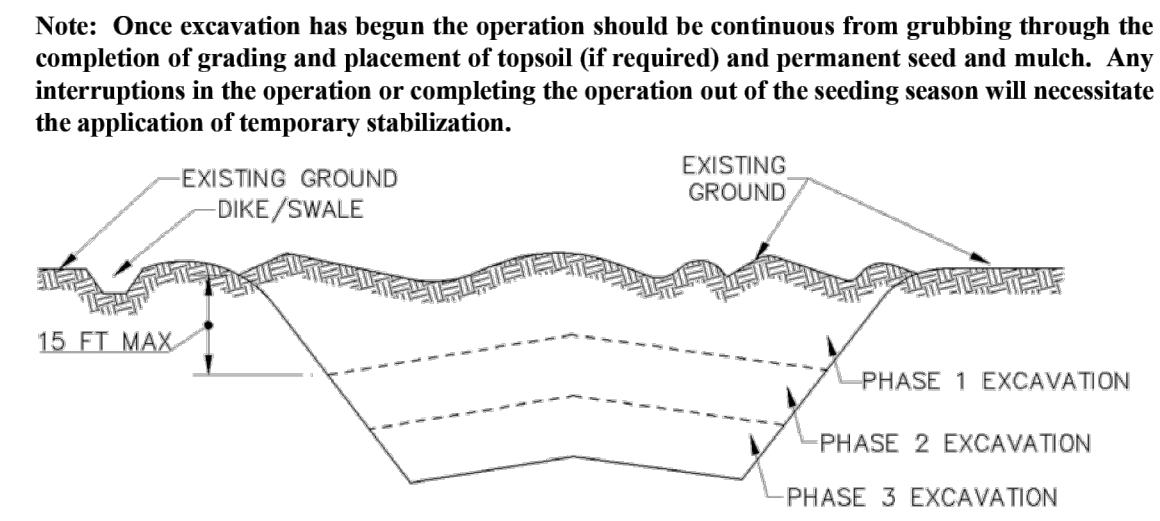

Figure B.1: Incremental Stabilization - Cut
- 1. Excavate and stabilize cut slopes in increments not to exceed 15 feet in height. Prepare seedbed and apply seed and mulch on all cut slopes as the work progresses. 2. Construction sequence example (Refer to Figure B.1): a. Construct and stabilize all temporary swales or dikes that will be used to convey runoff around the excavation.